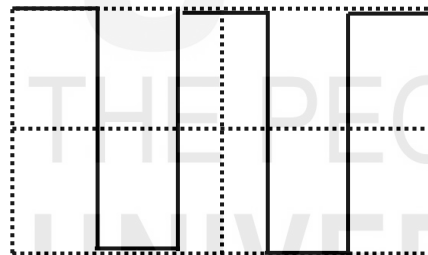

Fig. 15.12: Signal trace on a CRO screen.
4. Determine the peak-to-peak amplitude and frequency of the signal shown in Fig. 15.12. The screen width is 10 cm and height is 8 cm. The voltage sensitivity is $2 \text{ V}/\text{cm}$ and time base is $2 \text{ ms}/\text{cm}$.